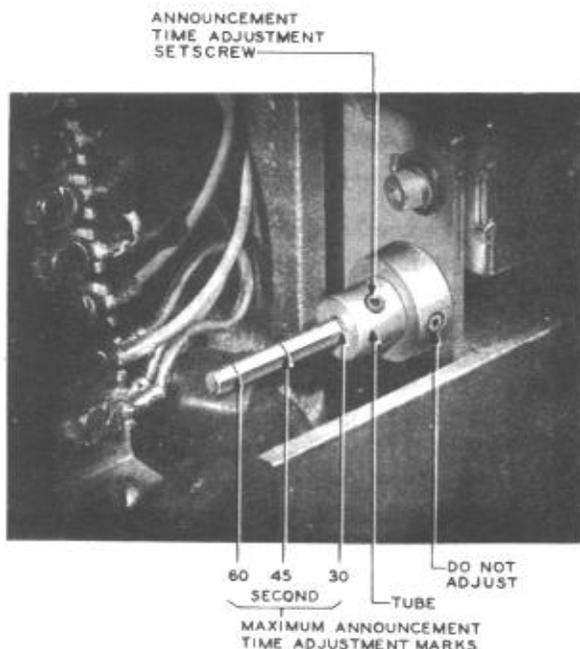

Fig. 11 - Adjustable Mechanical Stop, Hex Head Setscrew, and Tube
6.02 To adjust the maximum announcement length, the following steps should be taken (see Fig. 11).